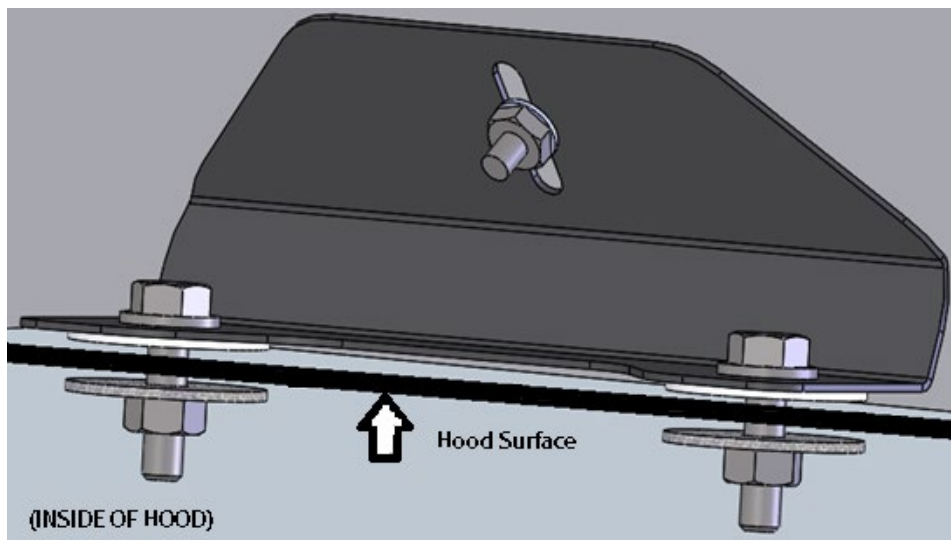

Figure 4: Hardware Use for Installing Outer Brackets
11. Install the bug deflector back onto hood. Once all hardware is in place for mounting brackets, tighten. Use the hardware shown in Figure 4 below for the outer brackets. (1/4-20x1" hex head bolt and flat washer on exterior, nylon washer between bracket and hood, and large flat washer and lock nut inside the hood)